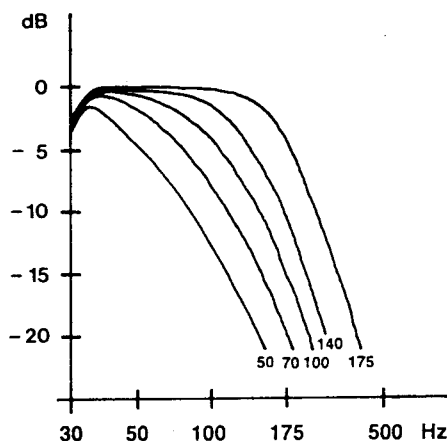

Fig. 6
The lower frequency limit of the Subwoofer is always 30 Hz. With the control (4), "crossover frequency subwoofer" an adjustable, second order (12 dB/octave) lowpass filter gives an upper limit between 40 and 175 Hz as shown in figure 6.